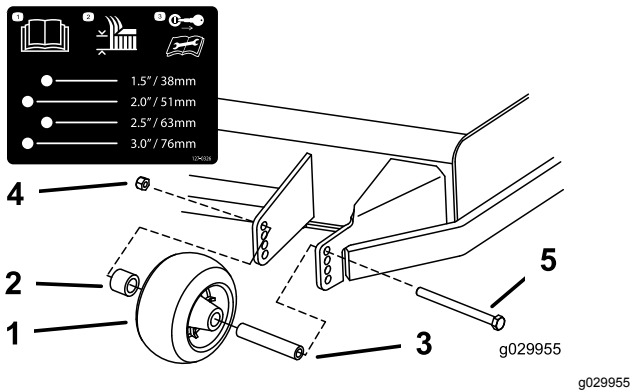
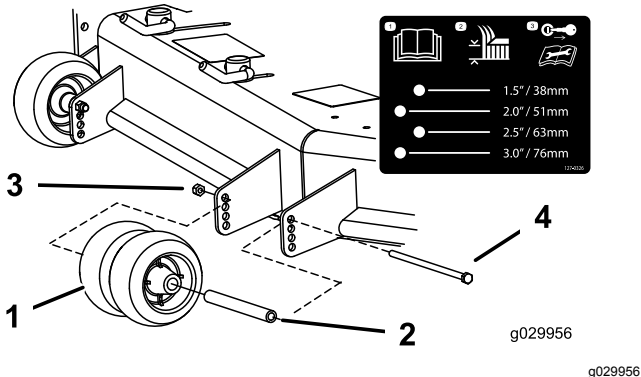
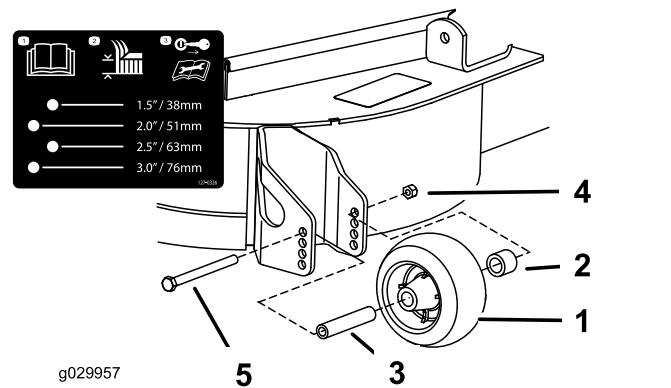

Figure 27
Figure 28
Figure 29
3. Adjust the anti-scalp rollers as shown in Figure 27, Figure 28, and Figure 29.